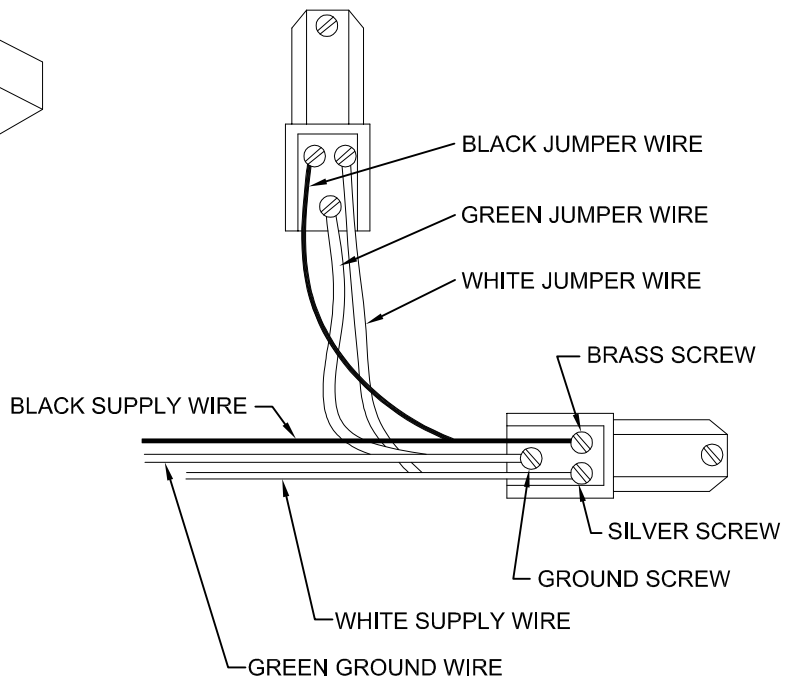

FIGURE 4
- 9 - Use WHITE JUMPER WIRE(S) to interconnect POWER LEG terminals with SILVER SCREWS. Use BLACK JUMPER WIRE(S) to interconnect terminals with BRASS SCREWS. Use GREEN JUMPER WIRE to interconnect GROUND SCREWS (See Figure 4).
- 11 - Connect GROUND WIRE to GROUND SCREW on one POWER LEG. Connect WHITE SUPPLY WIRE to terminal (on same POWER LEG) with SILVER SCREW. Connect BLACK SUPPLY WIRE to terminal (on same POWER LEG) with BRASS SCREW (see figure 4).